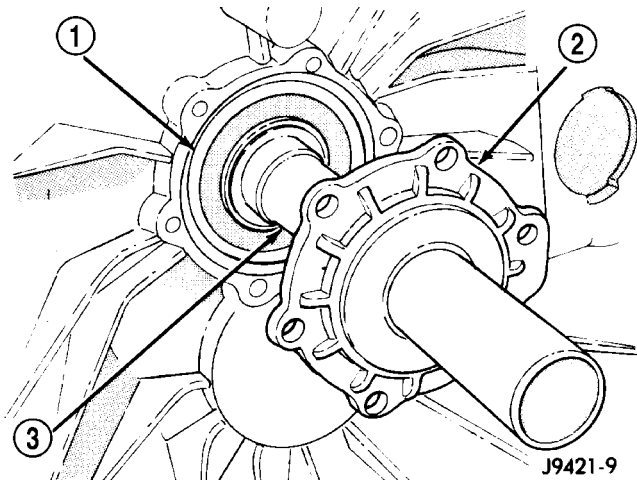

Fig. 10 INPUT SHAFT BEARING RETAINER
(11) Remove bearing retainer from input shaft (Fig. 10).